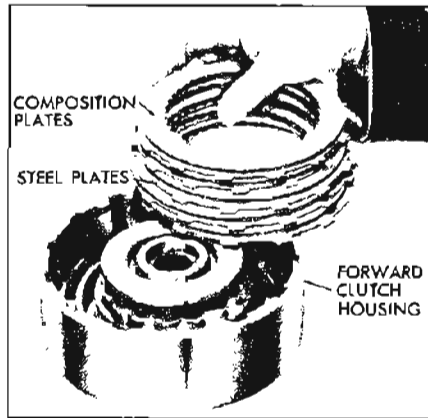

Figure 5-603
4. Remove five (5) composition and five (5) steel clutch plates. See Figure 5-603.